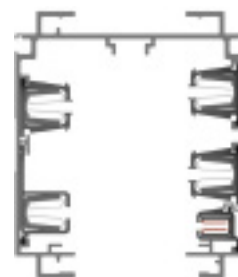

Figure 2
The design of the internal busbars also makes a difference. The best design is a U-shaped busbar (*Figure 2*), which provides a continuous receptacle fitting for two types of connections: (1) a compression-fit joint to link busway sections together, and (2) a compression-fit electrical connection for the plug-in units in the busbar. (See the following sections of this white paper for more information.)